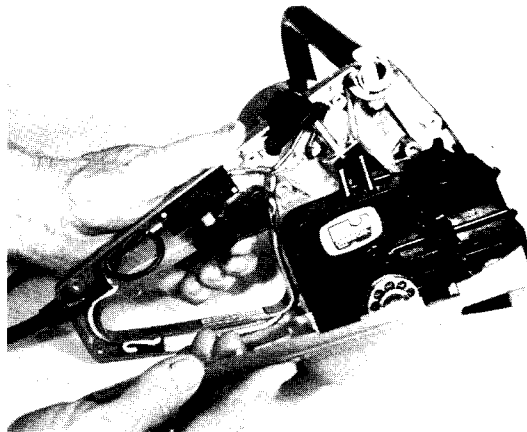

Fig. 9 — Installing Switches and Handle Cover
4. Install gear case over splined end of armature shaft and secure with retaining bolts, Fig. 9.
6. Connect wire connectors to switch, position switches in handle, hold in place with one hand and install handle cover, Fig. 9.